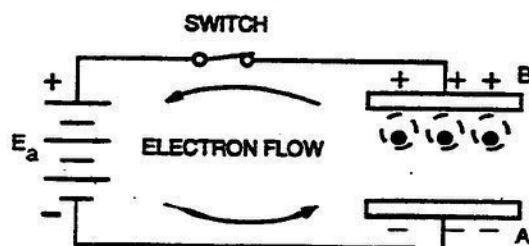

Figure 2-71. Electron flow in a capacitor circuit.
**Factors affecting capacitor operation.** A simplified diagram of a capacitor is shown in figure 2-71. To understand what happens within a capacitor, you must use the principles of electrostatics. In the uncharged condition, the atoms that make up the dielectric of a capacitor are in their normal, or neutral, state. That is, the electrons of each atom are revolving around their nucleus in normal orbital paths. Figure 2-71 shows only three atoms (greatly enlarged) of the millions that make up the dielectric.
**Electrical factor.** When a voltage is applied to the capacitor, the plates become charged. Assuming the polarity as indicated in figure 2-71, electron flow from the applied voltage ( $E_a$ ) is toward plate A and away from plate B.